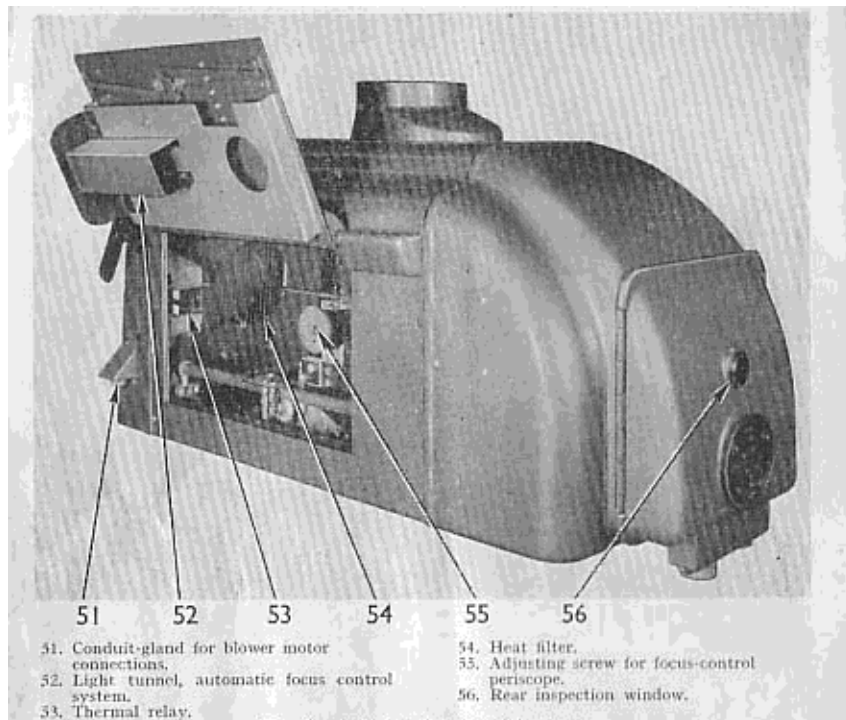
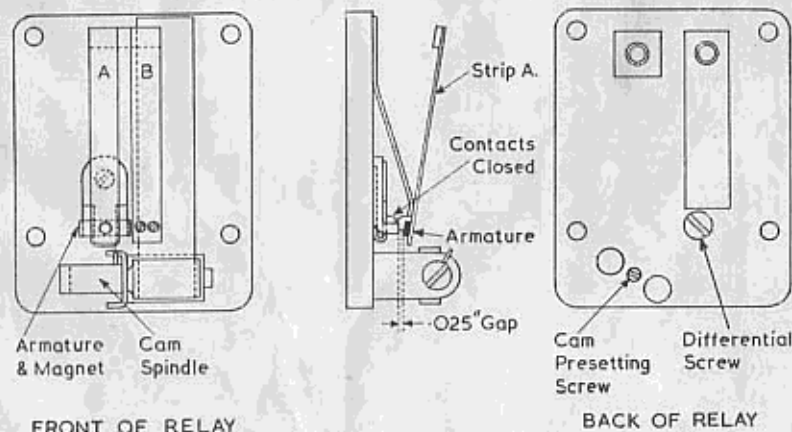
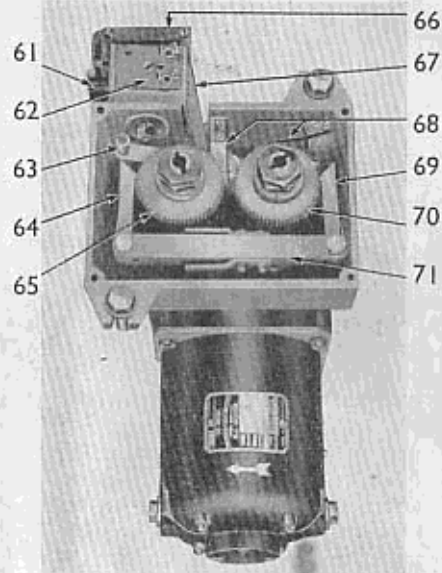

Fig. 6. Left-hand side of lantern.
Fig. 7. Diagram of thermal relay. For adjustment, see text.
Fig. 9. Top view of Motor and Feed Ratchets.
Blower Motor. The gland, 51, Fig. 6, for the flexible conduit for the connections to the blower motor will be found near the front of the lantern, on the left-hand side. Use light leads for the connections from the terminals under this gland, and leave the "motor" end of the cables temporarily disconnected.
- (1) Set cam spindle (see Fig. 7) fully anti-clockwise.
- (2) Adjust differential screw, so that contacts touch when the gap between armature and magnet is approximately 0.025 in.
burn a steady arc and a square crater. External control knobs are provided near the rear end of the lantern, engraved "Up-Down" and "Left-Right", 7, Fig. 2. It should be noted that these inscriptions refer to the movement of the negative tip as viewed from the rear. Viewing window 56, Fig. 6, is fitted in the rear door so that carbon alignment can be checked.
The device comprises a thermal relay, 53, Fig. 6, a periscope, Fig. 3, and a gearbox, Fig. 9, with a two-speed drive to the positive carbon carriage.
The relay, shown diagrammatically in Fig. 7, consists basically of a pair of bi-metal strips, arranged to provide compensation for changes of the ambient temperature inside the lantern. An image of the crater is projected on to the relay by means of the periscope, the image being deflected to the left or right according to the longitudinal position of the crater. When the image falls to the right of the gap between the bi-metal strips, the relay contacts remain open, and the positive carbon is fed at a speed which is above the normal burning-rate. This causes the crater to move towards the rear of the lantern, and its image travels across the relay until it reaches the left-hand bi-metal strip. The applied heat causes the strip to distort sufficiently to close the relay contacts. The contacts are in series with the supply to a solenoid, 62, Fig. 9, mounted on the gearbox, and the operation of this solenoid has the effect (explained in a later section) of reducing the speed of feed to well below the normal carbon burning-rate. The crater and its projected image start to fall back to their previous positions; when the image leaves the left-hand strip the relay opens, de-energizing the solenoid and increasing the speed of feed to above normal burning-rate; the cycle of operations is repeated indefinitely, and the crater is maintained so close to its optimum position that the small variations of light-intensity are unnoticeable on the screen.
Now set the periscope mirror-adjusting screw, 55, Fig. 6, so that, still with the crater in the best position for screen illumination, its image falls in the centre of the gap between the two bi-metal strips to be seen through the relay-housing window. The relay should then automatically hold the crater in the correct position.
Observe the movement of the crater with the relay in control. If the image tends to move excessively on to the left-hand bi-metal strip (carbons feeding too fast), turn the cam-spindle (Fig. 7) slightly anti-clockwise till the relay contacts close. If the image
The feed-motor drives a wormwheel, on the spindle of which is a ball-race, mounted eccentrically. The eccentric motion rocks a lever 71, Fig. 9, at each end of which is fitted a spring-loaded pawl, 64 and 69. These pawls engage with the positive and negative ratchet wheels, 65 and 70, giving one tooth per stroke on the negative ratchet (right-hand) and, normally, three teeth per stroke on the positive ratchet. The ratchet wheels are connected by friction washers to spindles which pass back into the gearbox, where each has a worm drive to its own chain-sprocket.
Remove the hand-feed knobs and the ratchet-box cover. Immediately in front of the ratchet-box will be seen the focus-control solenoid; movement of its armature operates a lever and pin 63, Fig. 9, the pin being in the path of the positive pawl 64. Switch on the arc, and observe the action of the pawl when the thermal relay contacts close. The solenoid armature moves inwards and the pin 63 should deflect the pawl so that the ratchet wheel is moved only one tooth for each stroke of the pawl. If the operation is incorrect, the length of the push-rod 67 probably requires adjustment. To do this, switch off the supply and open the left-hand door of the lantern. Fit the box-spanner over the locknut on the screw indicated at 66, Fig. 9, at the end of the armature, and pass the screwdriver through the box-spanner; unlock the nut and turn the screwdriver (clockwise to lengthen the push-rod). Re-lock the nut and again check operation.
All settings should now be tested with the arc running, checking that the ratchet pawl correctly engages one or three teeth, while the solenoid opens and closes without hesitation. When necessary, the non-return springs 68, Fig. 9, can be set to index each tooth correctly, but they should not apply too great a pressure.